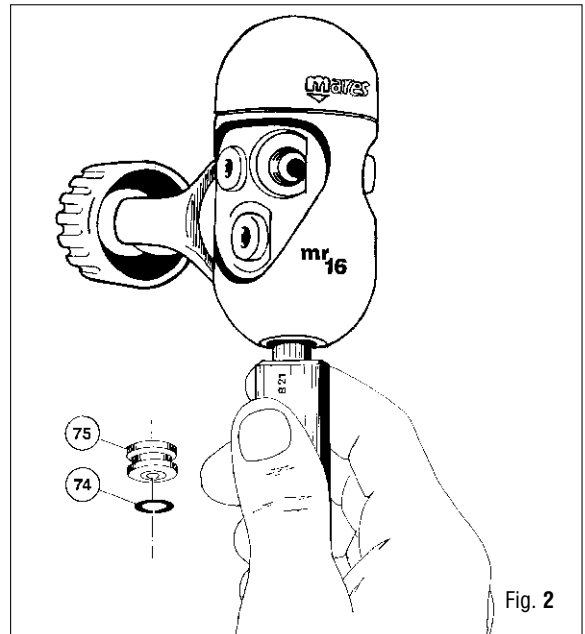

Fig. 2
5. Position special tool B-21 on the first stage seat connector (75) while exerting a slight pressure. Inject compressed air (less than 7 bar - 101.5 psi) through a low pressure port. (Fig. 2)